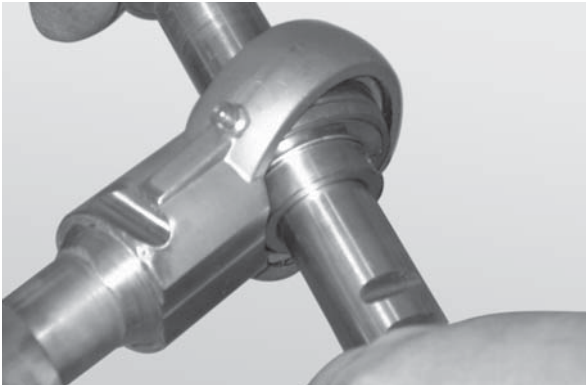

Figure 93
3. Insert the rod end of another bearing shaft through the bearing orifice (Figure 93).